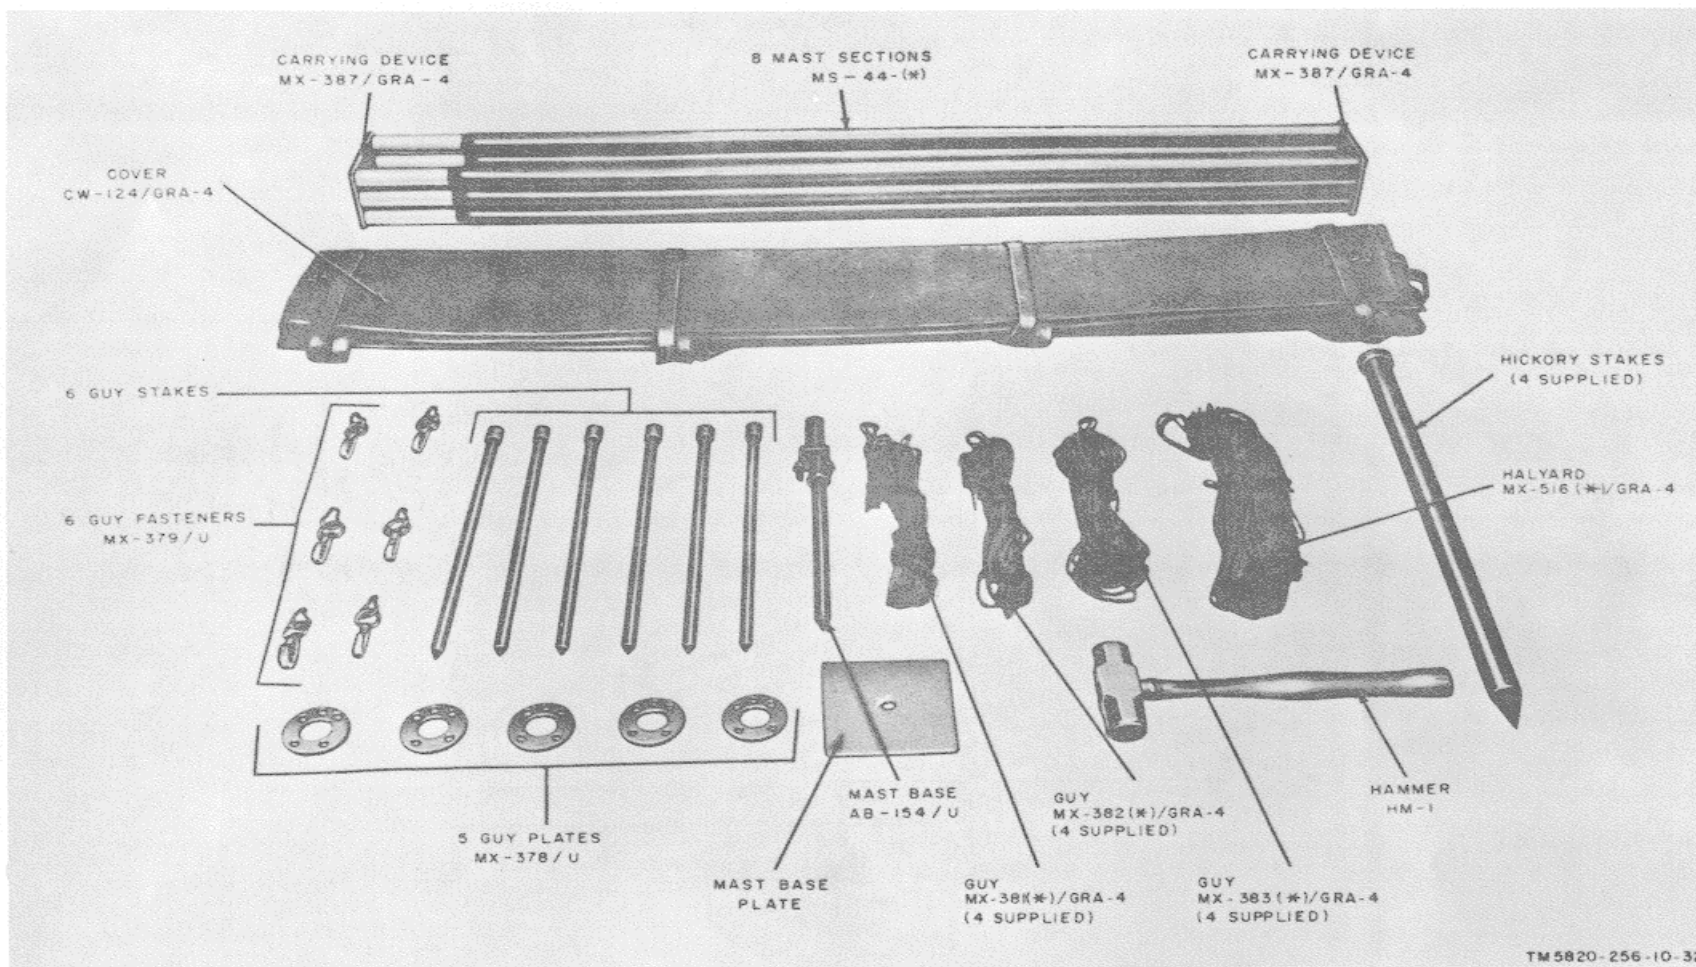

Figure 1-17. Mast AB-155(*)/U, components.
(2) The transmitting whip antenna consists of three Mast Sections MS-116-A, one Mast Section MS-117-A, and one Mast Section MS-118-A, which are assembled and inserted in Mast Base MP-76. Mast Base MP-76 is mounted on Bracket MT-657/GRC and secured to the outside rear wall of the shelter. An insulated guy assembly is provided to tie the transmitting whip antenna in a horizontal position when the radio set is operated while in motion.
e. *Doublet Antennas*. Six Masts AB-115(*)/U (fig. 1-17) and 1,000 feet of Wire W-1 are furnished for the construction of half-wave doublet antennas. At frequencies from 1.5 to 4.0 MHz, three Masts AB-115(*)/U are used to support each doublet antenna; therefore, two antennas may be erected: one for receiving, and one for transmitting. At frequencies from 4.0 to 20.0 MHz, where shorter wire lengths are required, two Masts AB-115(*)/U are used to support each doublet; therefore, three antennas may be erected: two for receiving, and one for transmitting. Two Cable Assemblies, Radio Frequency CG-1334/U, each 500 feet long, are used for receiving antenna lead-ins. One RF Cable Assembly CG-692/U, 75 feet long, is used as a transmission line for the transmitting doublet. Figure 1-17 shows the components of one complete Mast AB-115(*)/U.
(1) Place Mast AB-155(*)/U at each mast location and remove Cover CW-124/GRA-4 from Carrying Device MX387/GRA-4 (fig. 1-17).